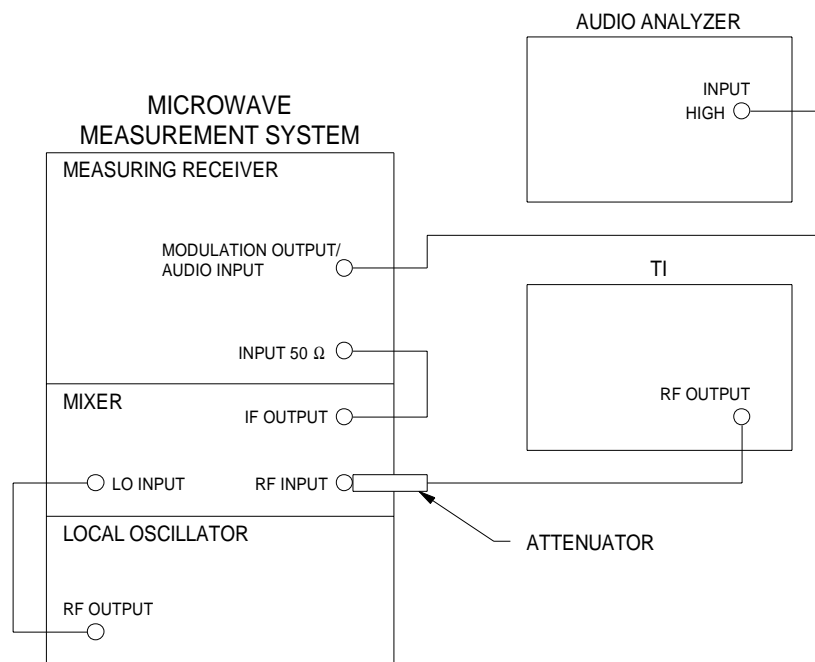

Figure 5.
4.6.2 Connect equipment as shown in Figure 5.